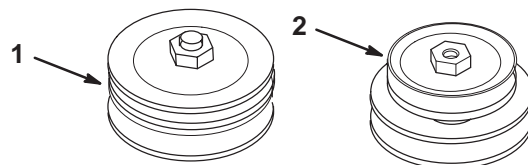

Figure 5
1. Select the correct pulley shown in figure 5.